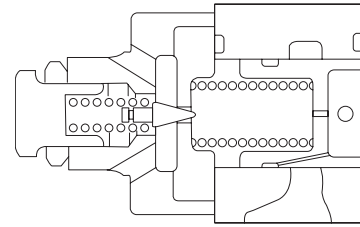

Figure 3-56
During operation, if the load is too high, system pressure will exceed the set pressure of 14Mpa for a short time. In this case, the main overflow valve (17) is opened, and the operating oil returns to the oil tank through the overflow valve, to protect the system. The main overflow valve's structure is shown in Figure 3-56.